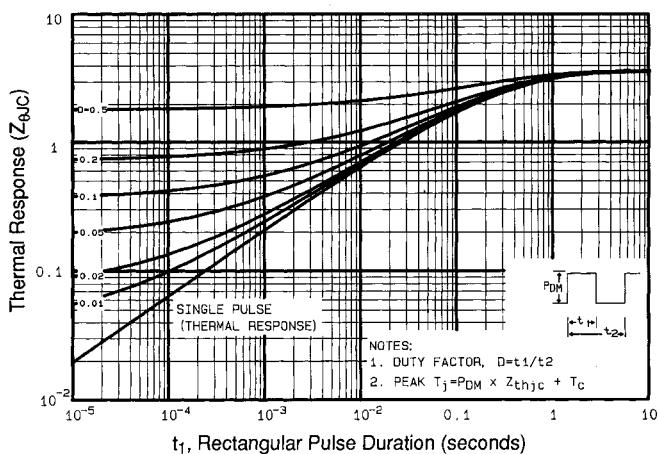

Fig 11. Maximum Effective Transient Thermal Impedance, Junction-to-Case
① Repetitive rating; pulse width limited by max. junction temperature (See Figure 11)
③ $I_{SD}\leq 5.9\text{A}$, $dI/dt\leq 120\text{A}/\mu\text{s}$, $V_{DD}\leq V_{(\text{BR})\text{DSS}}$, $T_J\leq 150^\circ\text{C}$
⑤ $t=60\text{s}$, $f=60\text{Hz}$